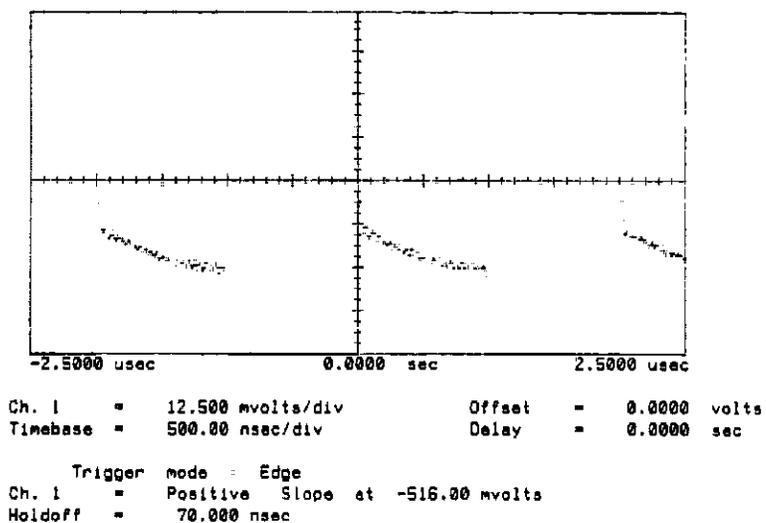

Figure 7-23 Magnify in the Averaged Mode With 512 Averages
10. Change NUMBER OF AVERAGES = 512 (see figure 7-23). Notice that with a greater NUMBER OF AVERAGES there will be less noise on the signal and the display will appear to be more stable.